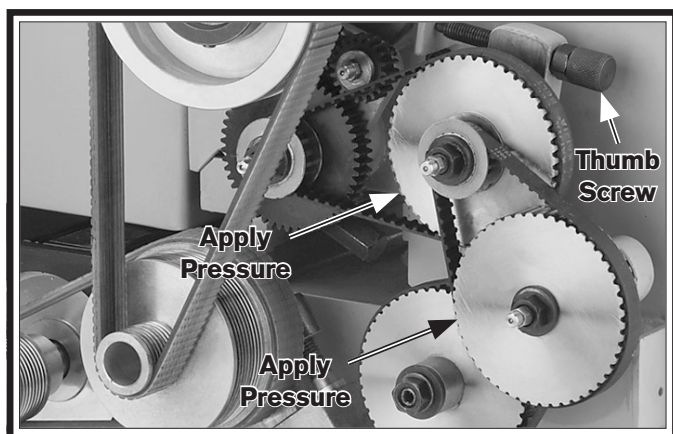

Figure 58. Locations to apply pressure on pulleys.
7. Apply upward and forward pressure to the upper right and middle right pulleys (see **Figure 58**) as you re-tighten the shaft hex nuts you loosened in **Step 3**.